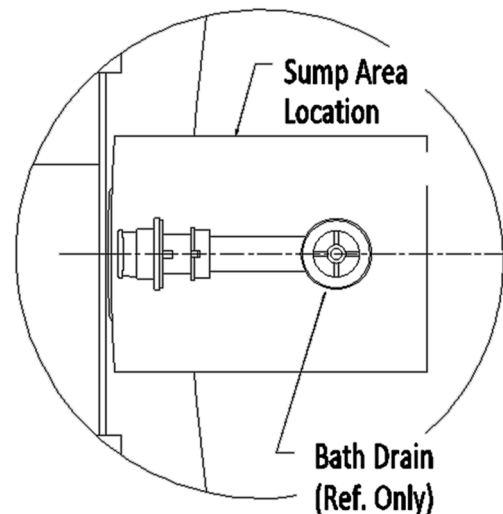

Figure 4
13. Align the drain with the center line on the template. **See Figure 4.**